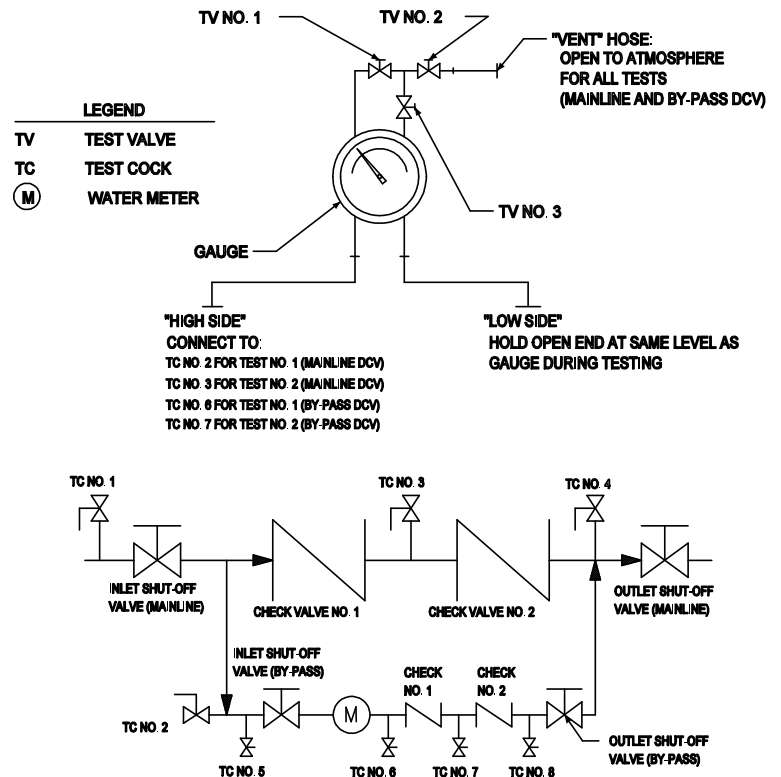

FIGURE 5
- Close by-pass inlet and outlet shut-off valves (Figure 5).